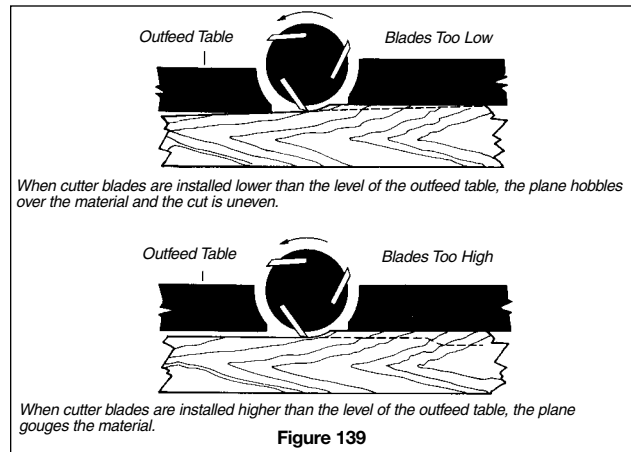

Figure 139
- Make sure that blades at their highest point of revolution are exactly flush with the outfeed table for safe, efficient operation (Figure 139).